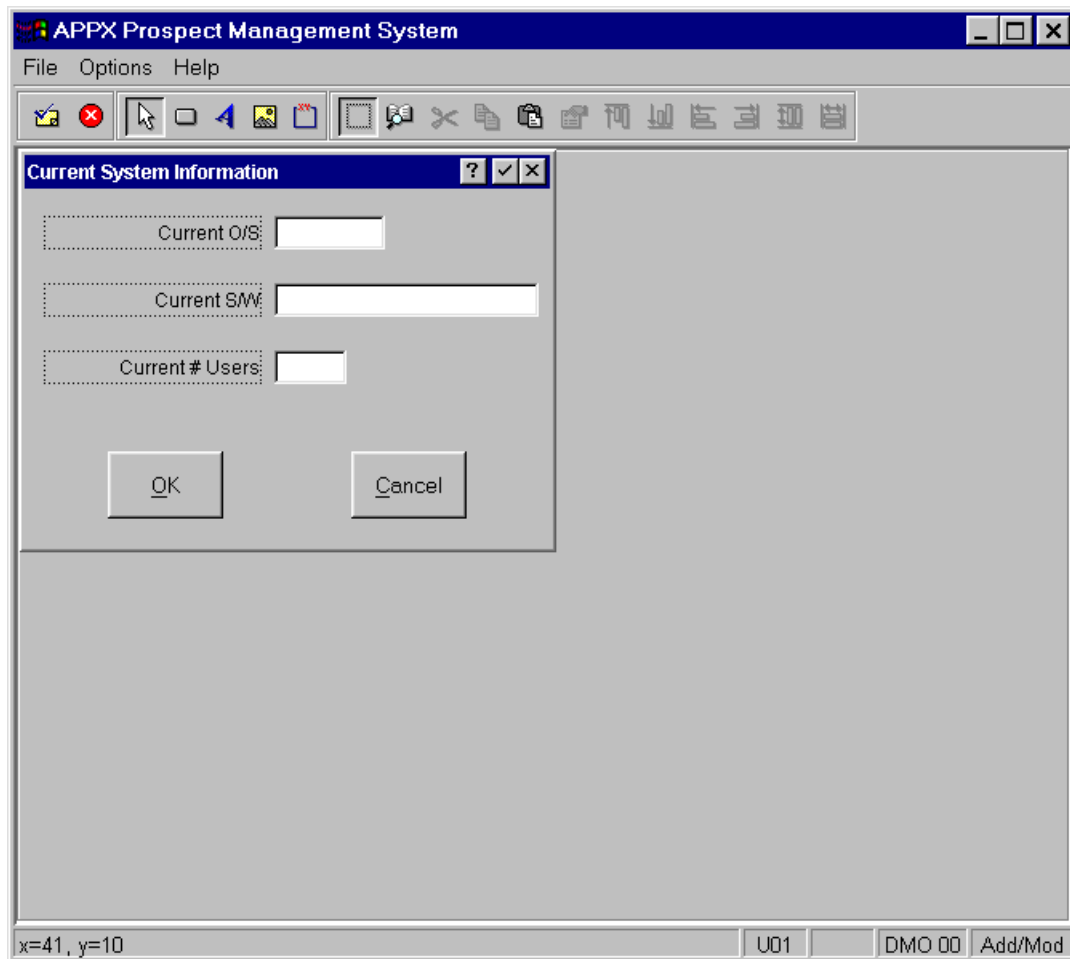

Figure E3.18 – Completed Input Image
- Your input image should now look something like the image shown in *Figure E3.18*.